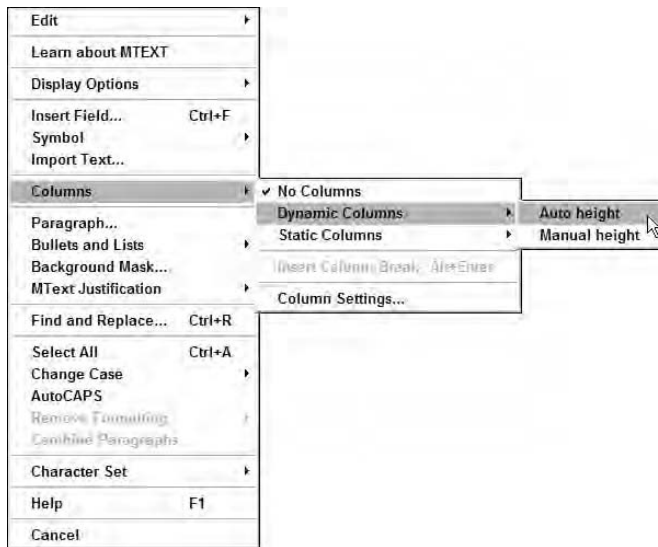

Figure 10-5:
10. If you want other formatting, select text, right-click, and choose the appropriate option from the menu (as shown in Figure 10-5).